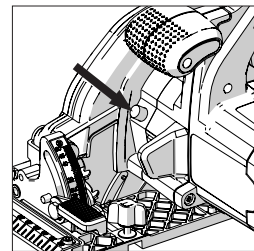

Fig. 3
- Locate the machines arbor lock button. Lock the machines arbor by operating the arbor lock button. **(Fig. 3)**